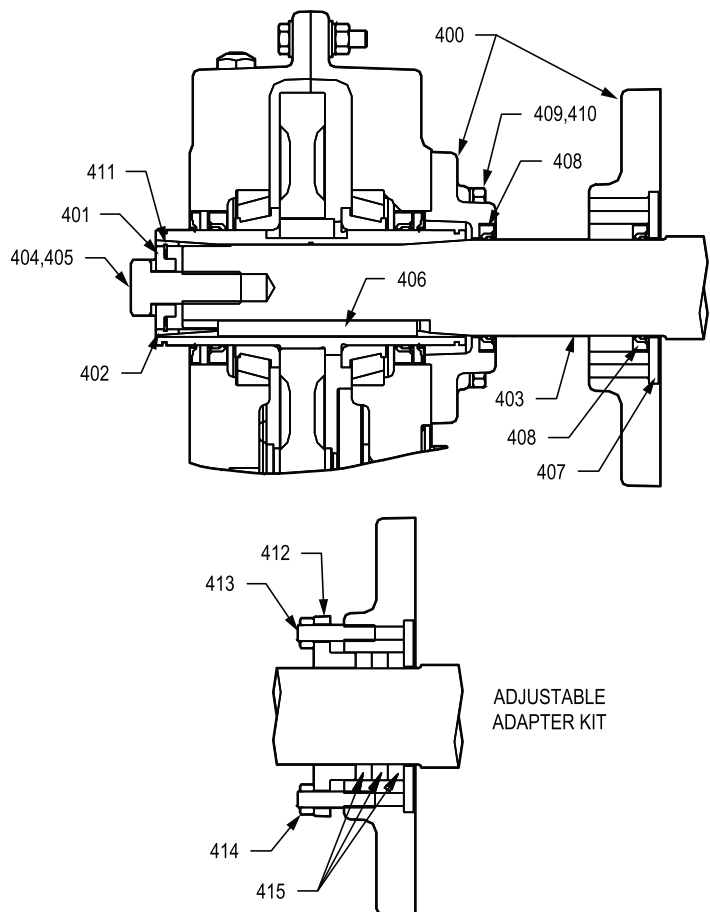

Figure 16 – Screw Conveyor Adapter Assembly
1. Install seals (408) into adapter housing as shown in Figure 16. If the optional packing adapter is to be used, install only one seal in the small end of the adapter. Use extreme care when installing seals to avoid damage to the seals. Press or tap seals into place by applying pressure only on the outer edge of the seal. Make sure seals are install evenly and are not tilted.
2. If using the optional packing adapter, install the two studs (413), retaining ring (412), and two nuts (414). Thread the nuts onto the studs about 4-5 threads. Install the three braided type seals (415) in a circular direction into the adapter cavity. Shoulder the braided seals against the adjustable retaining ring (412). To aid in installation of the driveshaft in step 7, the braided seals can be flattened out slightly with a soft hammer prior to installation. When installing the braided seals offset the joints from each other.
3. Lightly tap the large washer (407) into the counterbore on the large end of the adapter to seal the braided material installed in step 2 or the seal installed in step 1.
5. Position screw conveyor adapter (400) on the reducer output hub so that the small end (end with four drilled holes) rests on reducer. The approximate 1/8" piloting projection should locate in the output seal bore next to the auxiliary seal. Adapter projection should not touch the face of the gear case casting.
6. Place four adapter screws (409) and lock washers (410) through the adapter and thread into the reducer. Tighten the four cap screws (409) to the torque specified in Table 9.
8. Install the retaining ring (411) into the screw conveyor wedge (402). Making sure the driveshaft is fully seated into the reducer, slide the wedge onto driveshaft.
9. Install keeper plate (401), driveshaft cap screw (404), and lockwasher (405). Torque to specifications in Table 9.